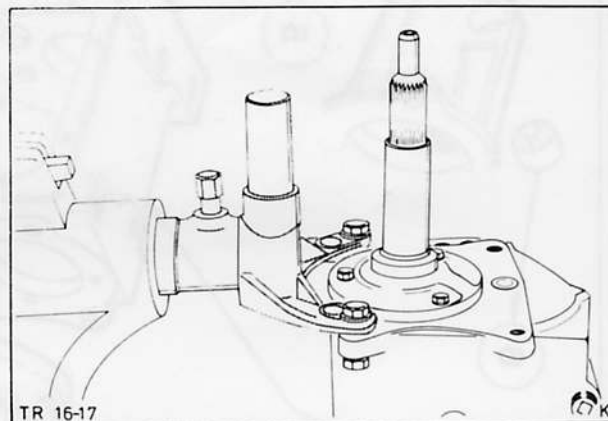

Fig. 62. Detach gearbox from stand
55. Detach gearbox from stand, Fig. 62.